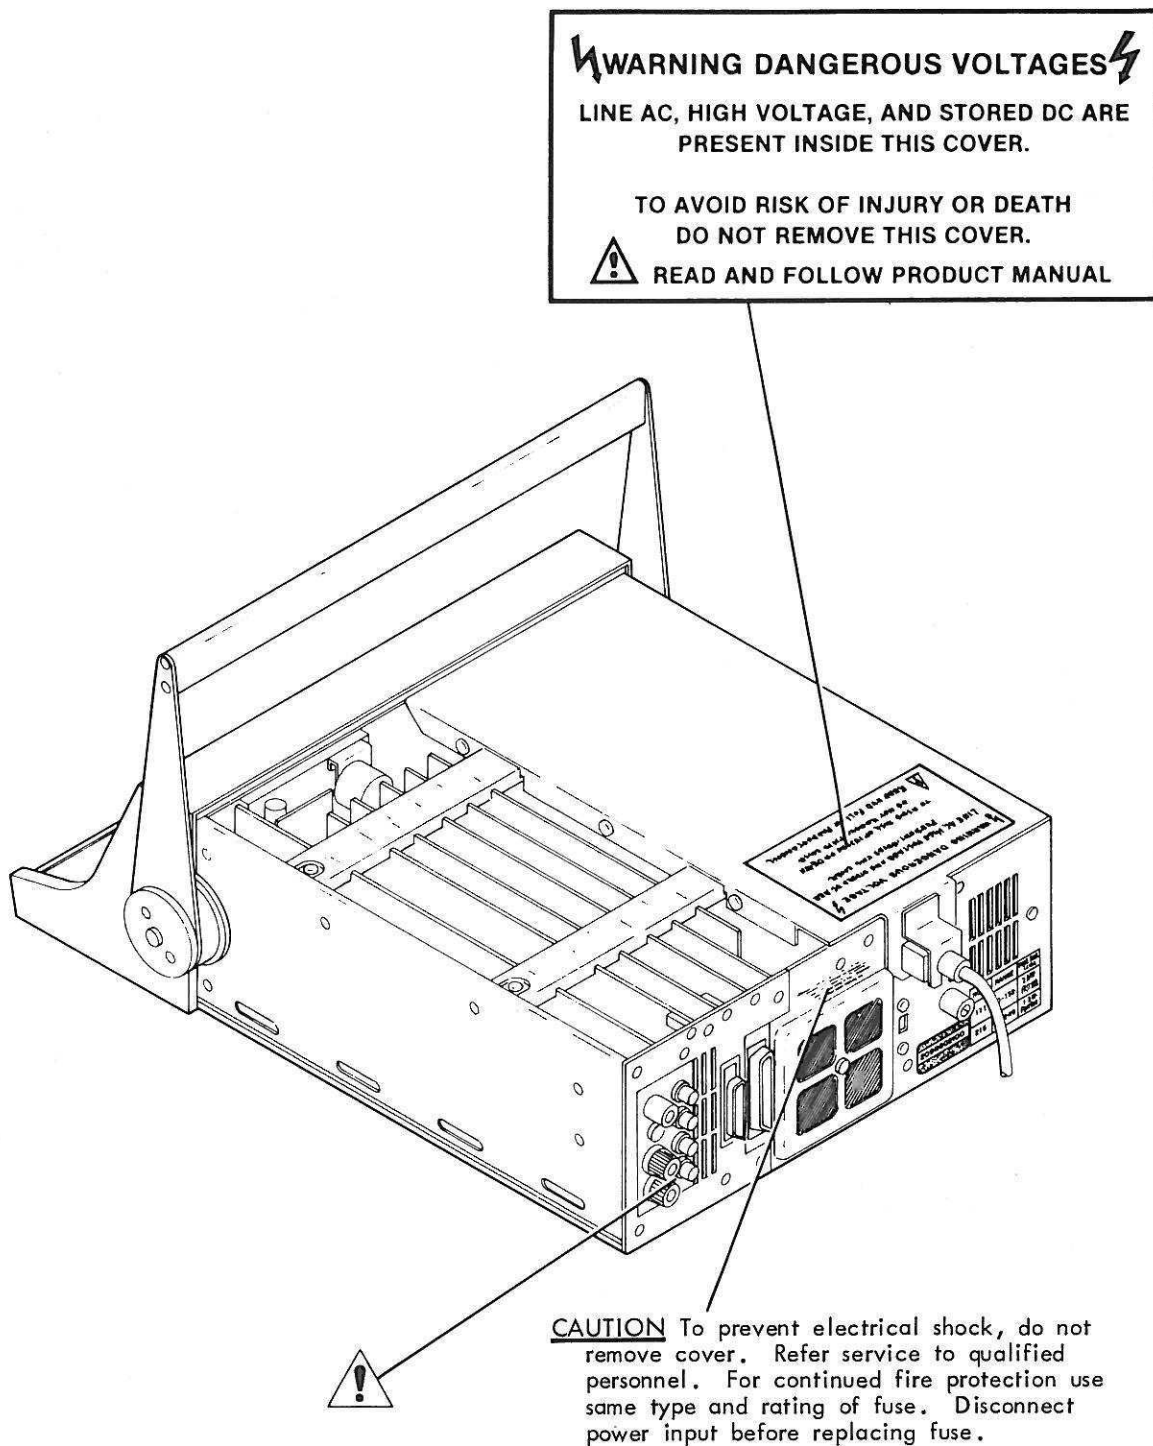

Figure S-1. Warning Label Locations
S.4 The following WARNING labels appear on the instrument, see Figure S-1 for their locations.